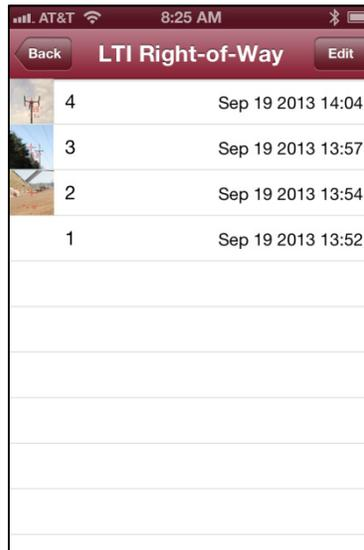

Figure 24
3. Tap the blue arrow button next to the project to be accessed. A list of shots contained within that project will appear (Figure 24).